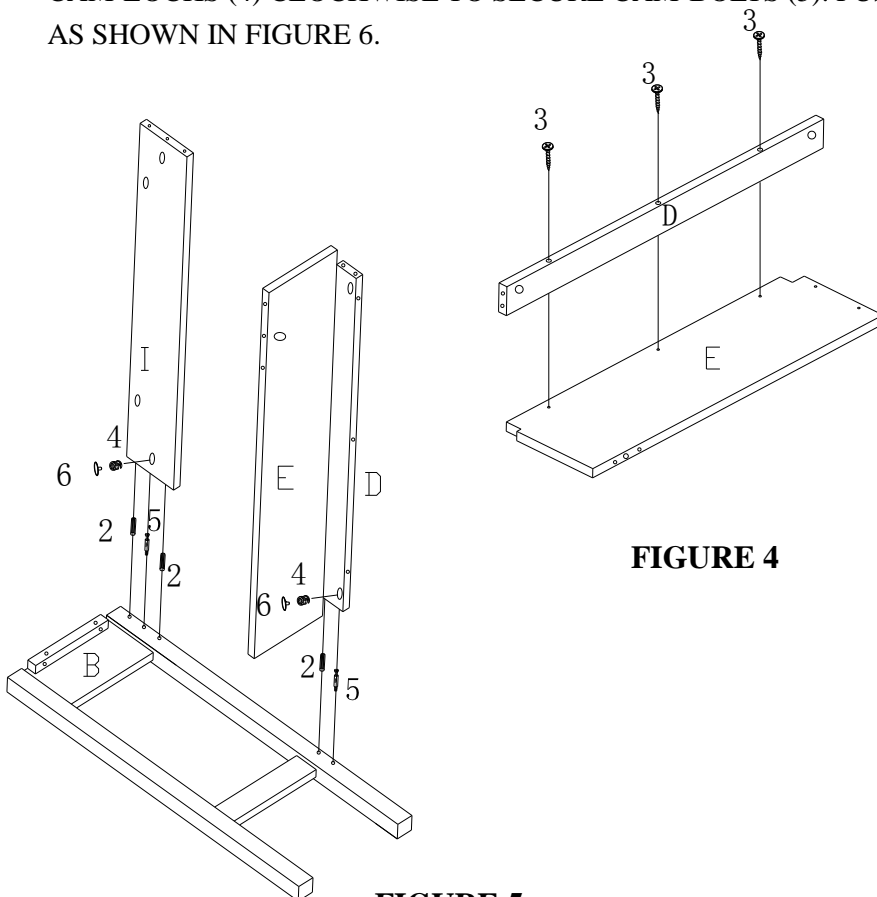

FIGURE 4
6. TIGHTEN LARGE WOOD SCREWS (3) THROUGH PREDRILLED HOLES ON LOWER CROSS BRACE (D) INTO CORRESPONDING HOLES ON LEFT SHELF (E). AS SHOWN IN FIGURE 4.